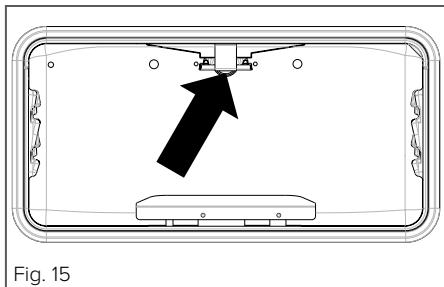

Fig. 15
1. Unscrew the screw fixing the front cover to the grill burner as per Fig. 15.